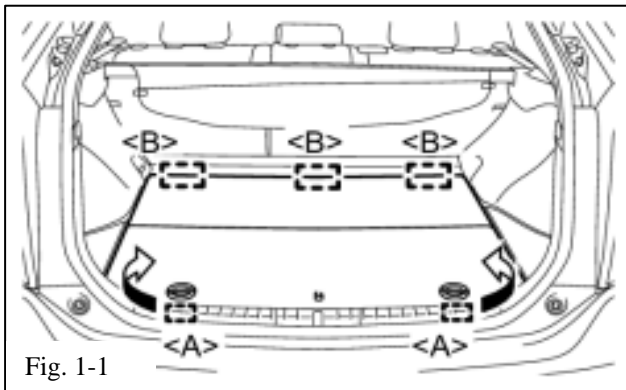

Fig. 1-1
- (b) Disengage the two (2) guides <A> as shown in the illustration. (Fig. 1-1)
- (c) Disengage the three (3) guides  and remove the floor board. (Fig. 1-1)